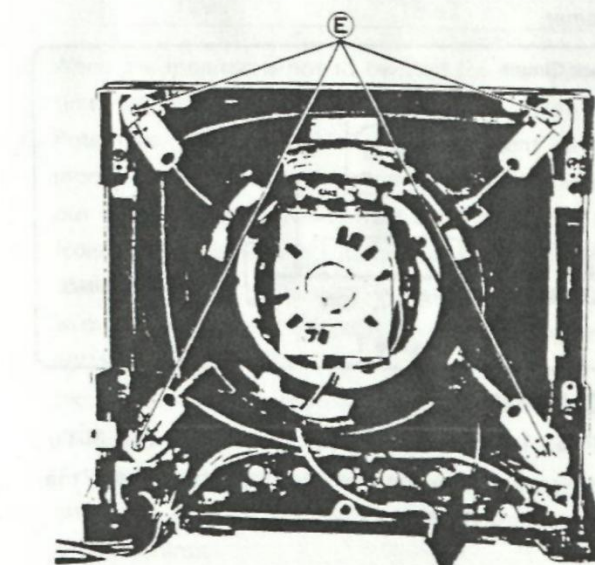

Figure 5
1. Remove 4 (E) screws and remove CRT off as shown in figure 5.